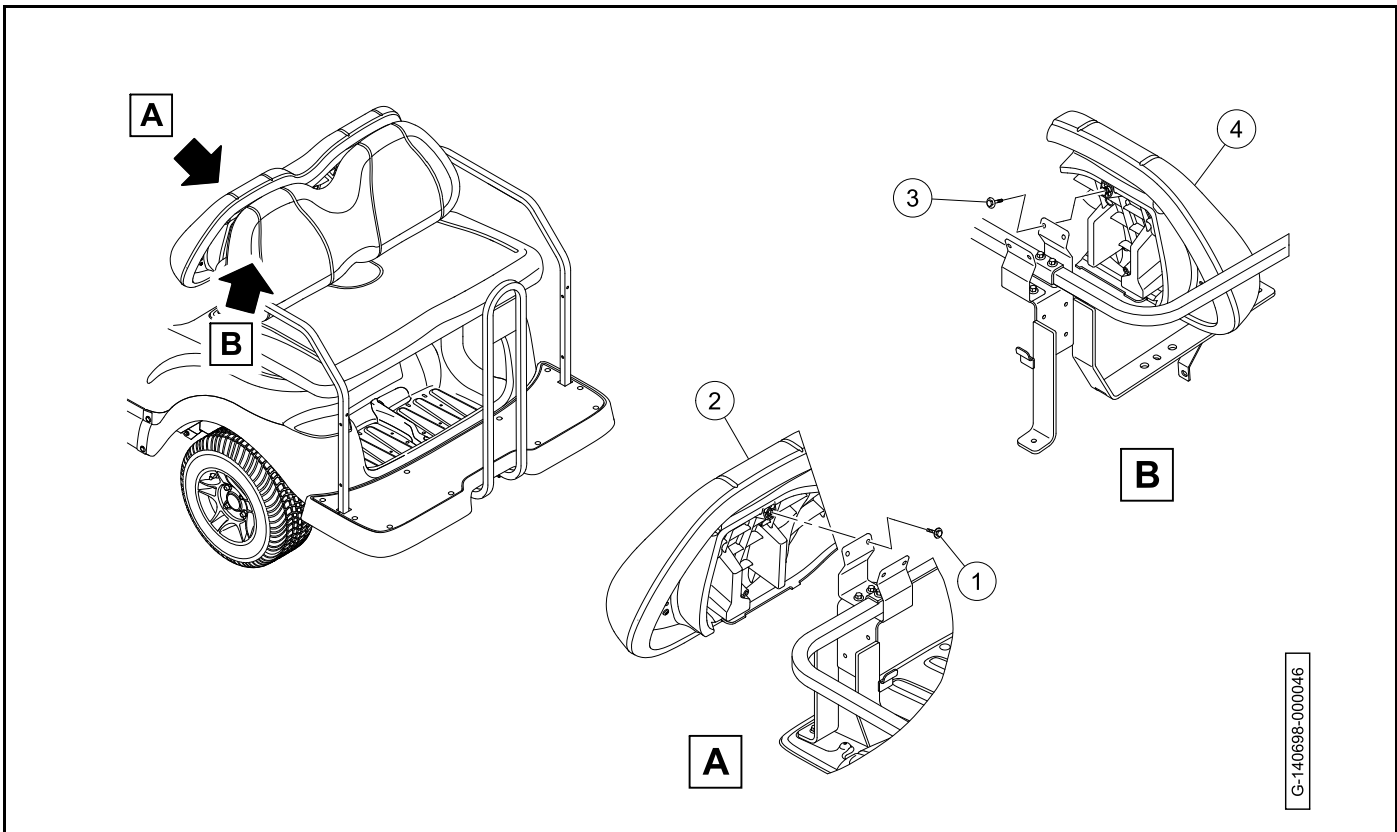

Figure 4-42
1. Remove the screws (1) from the front seat back (2) (**Figure 4-42**).
3. Remove the screws (3) from the rear seat back (4).